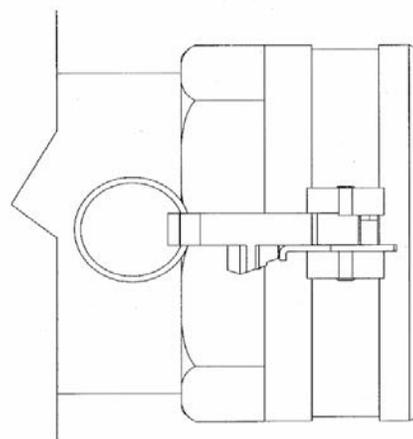

Fig. 7
7. After washing and inspecting the Load Diverter, place it back onto the load line. Make sure that the locking arms are fully engaged [Figure 7].